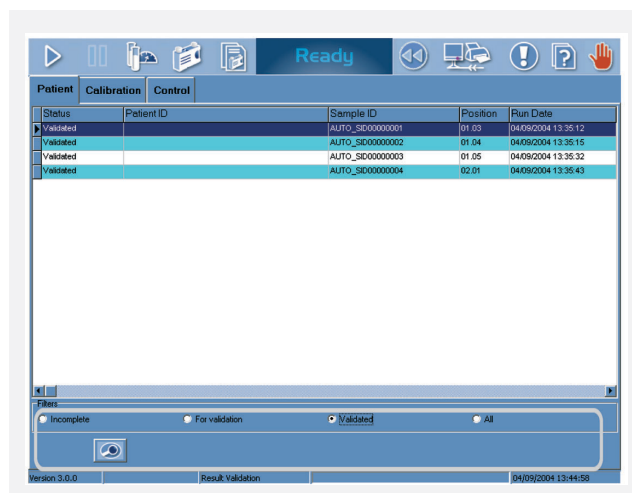

Figure 5 Validation Patient/Calibrator Screen
- Data filtering interfaces are located below list data tables (Figure 5).